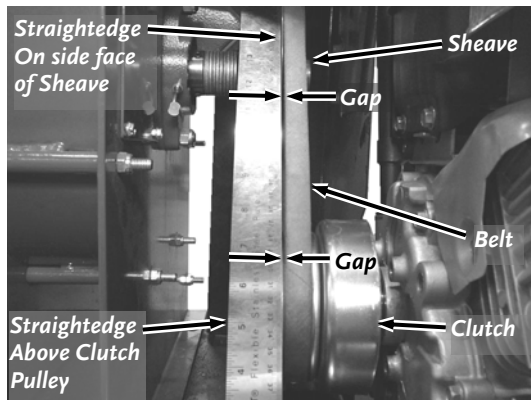

Figure 24
5. Remove the Belt from the Clutch and Sheave (**Figure 24**).
3. Check the alignment of the Clutch with the Sheave by placing a Straightedge across the Sheave side face (closest to the Chipper Assembly) and resting the other end over the Clutch Pulley (**Figure 24**).